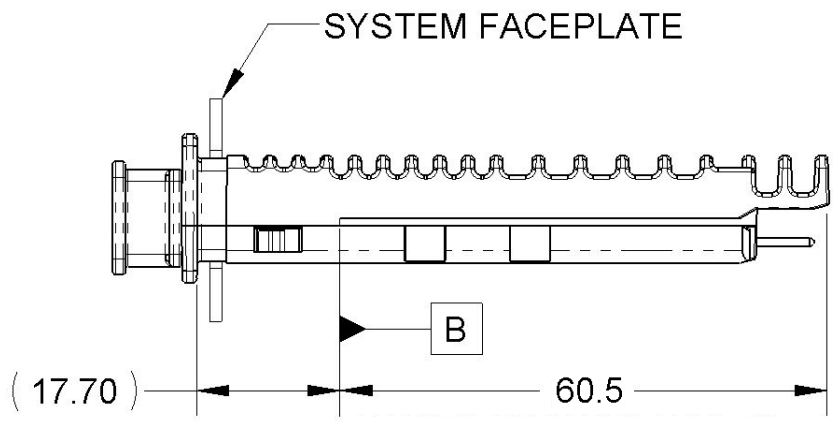

Figure 7. Mechanical Dimensions
- 1. All module and PCB pad dimensions are per X2 MSA Revision 2.0b unless otherwise noted in Figure 7.